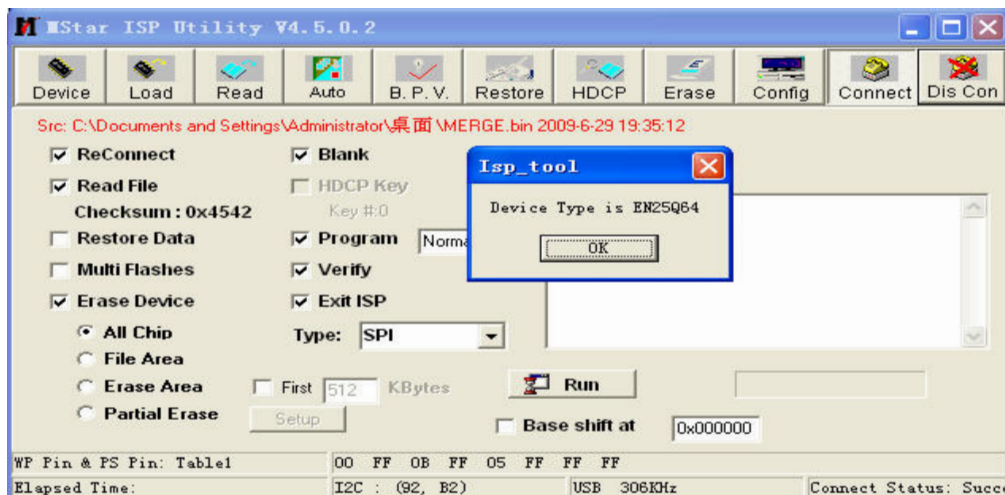

Fig. 3 Device **EN25Q64** successful connection
3) Select menu “**Connect**”, a dialog “**Device Type is EN25Q64**” will be displayed as **Fig. 3**, that is